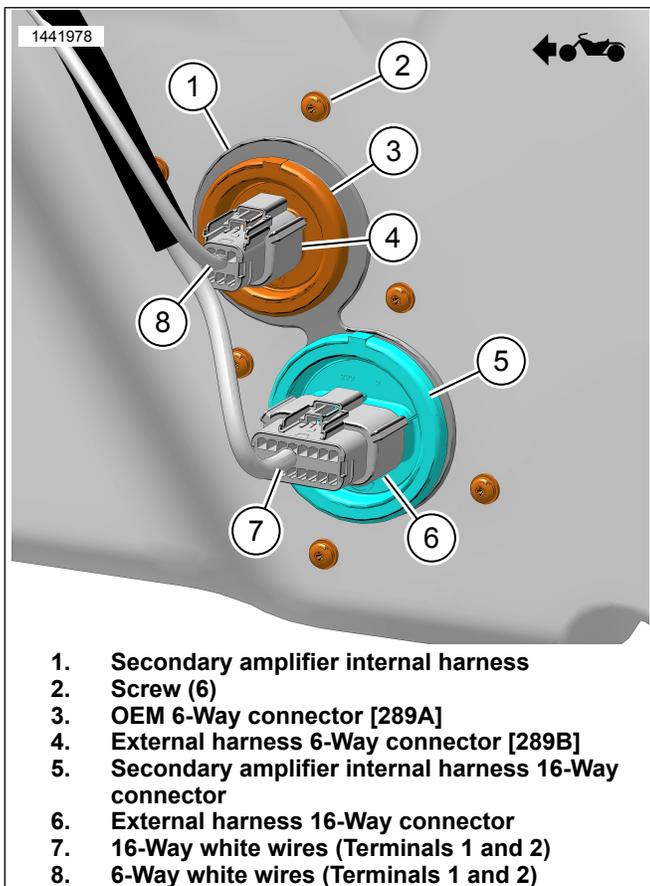

Figure 8. External Harness White Wires (Outside of Saddlebag)
1. Figure 8 Use special tool to remove terminals from connectors.
- a. Install white/pink wire (8) from 6-way OEM connector [289B] (4) into terminal 1 of secondary amplifier harness 16-way connector [289B_1] (7).
- b. Install white/brown wire (8) from 6-way OEM connector [289B] (4) into terminal 2 of secondary amplifier harness 16-way connector [289B_1] (7).
3. Figure 8 Use electrical tape to wrap ends of white wires (7) that were in the 16-way connector (6) or remove the wires entirely from the secondary amplifier harness including the unused connector [350B].
4. Secure unused white wires (7) as needed.